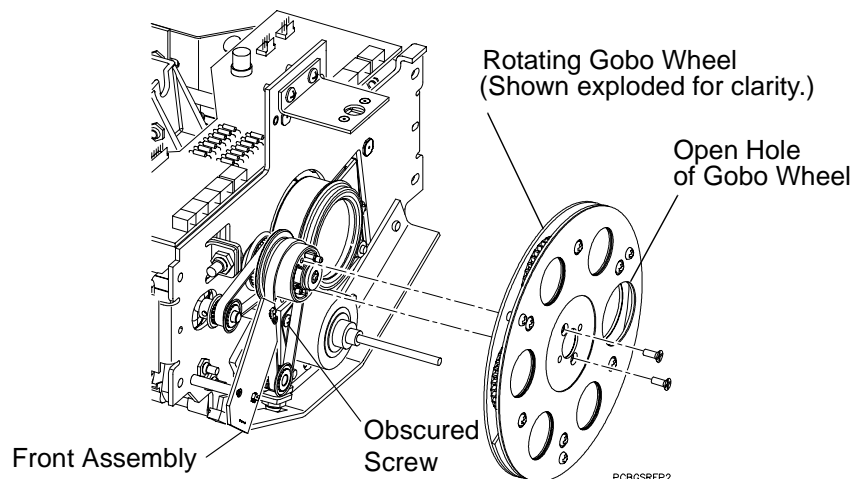

Figure 2-15: Accessing Edge Motor Assembly Attaching Hardware
- Step 5. The rotating gobo wheel obscures one of the screws securing the edge motor assembly to the front assembly. At rotating gobo wheel, rotate gobo wheel until the open hole is over head of obscured screw. **Figure 2-15.**